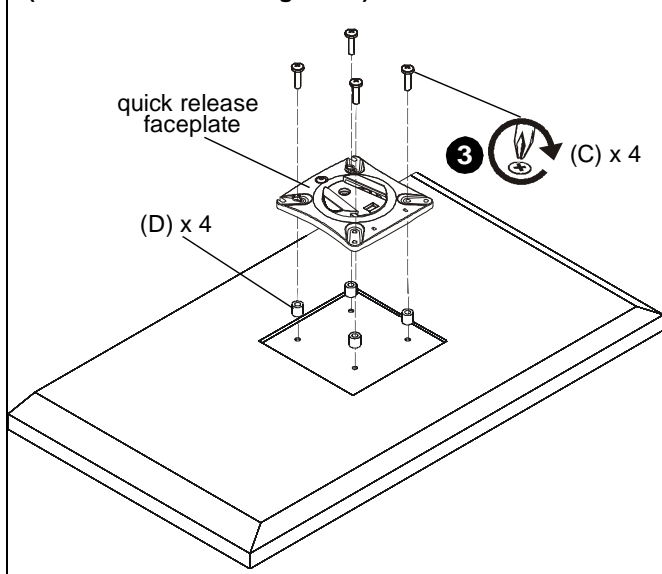

**Figure 9**
- Using Phillips screwdriver, carefully install four M4x14mm screws (B) through corresponding holes on faceplate and into the mounting holes on the display. (See Figure 9)